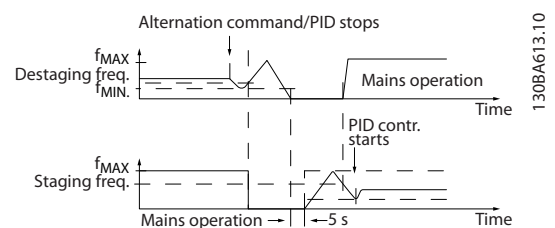

Figure 3.93 Slow Configuration
0.5 s* [par. 25-58 - 5 s]	This parameter is only active if the option selected in parameter 25-50 Lead Pump Alternation is different from [0] Off. This parameter sets the time between stopping the old variable speed pump and starting this pump as a new fixed speed pump. Refer to Figure 3.93 for description of staging and alternation.